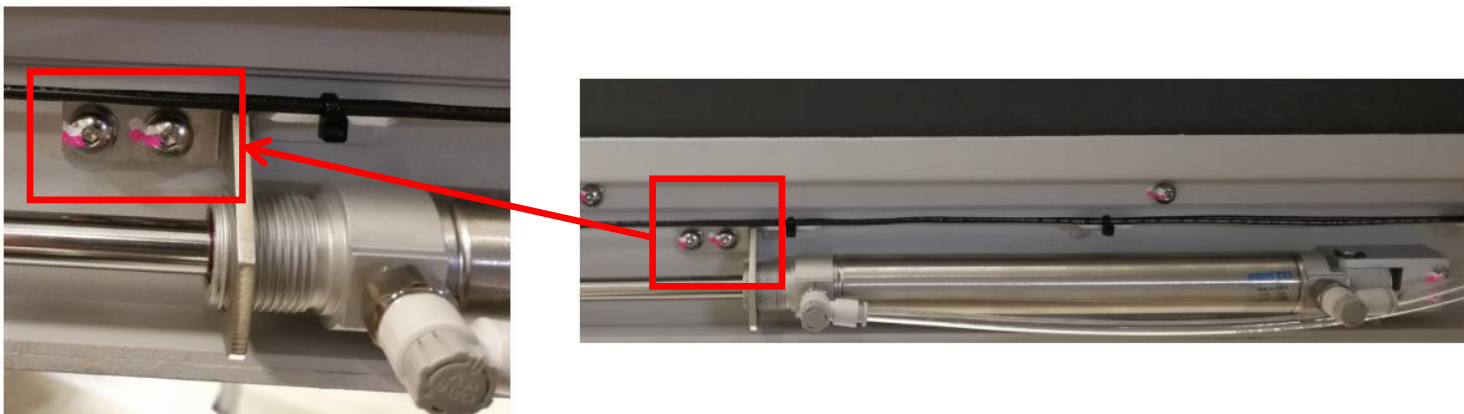

Figure 4
7. Loosen 2 x Screws & Remove Front Cylinder Holder as Figure 4